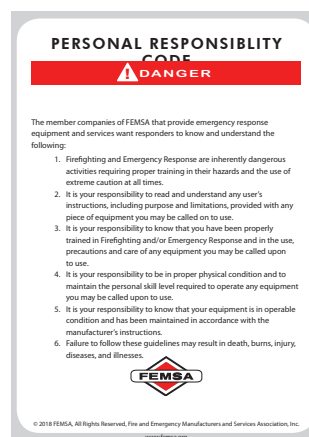

FIG. 1
8. Have you read, do you understand and do you agree to assume the risks and responsibilities listed in the Personal Responsibility Code? See FIG. 1 and back cover of this Guide. ☐ Yes ☐ No